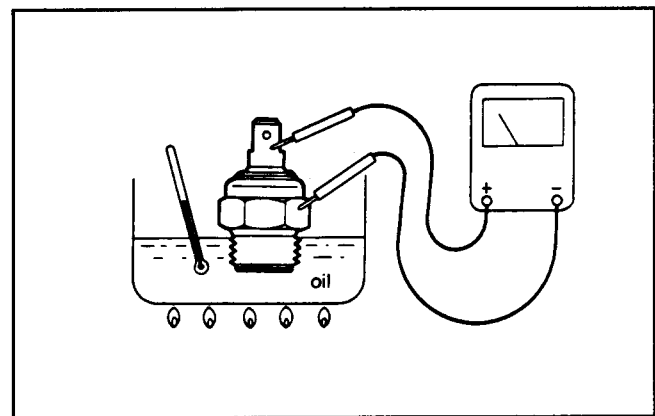

Figure 14
Test the lamp by grounding the wire that is connected to the high temperature shut-down switch (Fig. 14). The light should come on when the wire is grounded.
2. Put the switch in a container of oil with a thermometer and heat the oil (Fig. 14).
3. The switch is normally open (NO) and should close at 226 - 237° F (108 - 114° C).